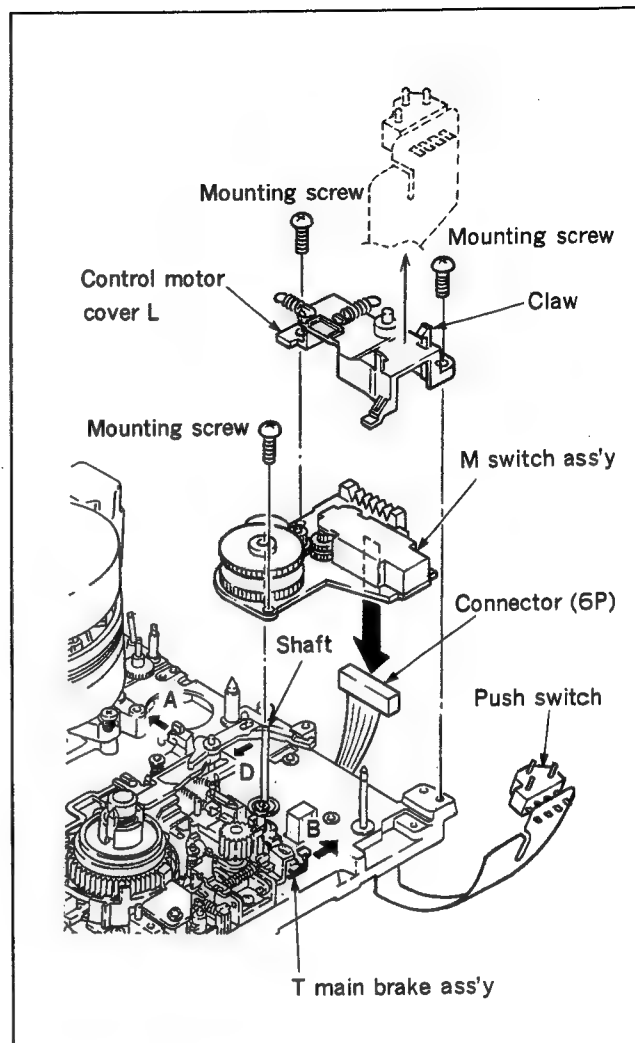

Fig. 4-23-4 M switch ass'y removal
8. Push switch removal (Fig.4-23-4)
9. M switch ass'y connector disconnection (Fig.4-23-4)
11. Control motor cover L removal (Fig.4-23-4)
12. M switch ass'y removal (Fig.4-23-4)